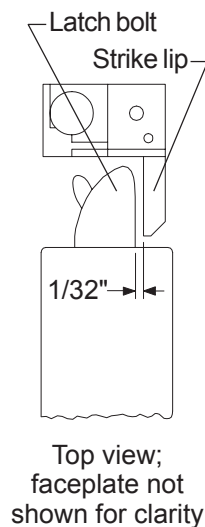
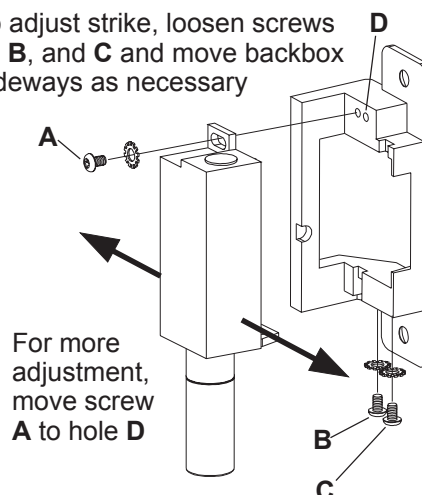

Figure 3
Figure 4
6. Install strike with two #12-24 screws. Make sure clearance between latch bolt and strike lip is 1/32" (Figure 3). If not, uninstall strike, adjust (Figure 4), and reinstall.